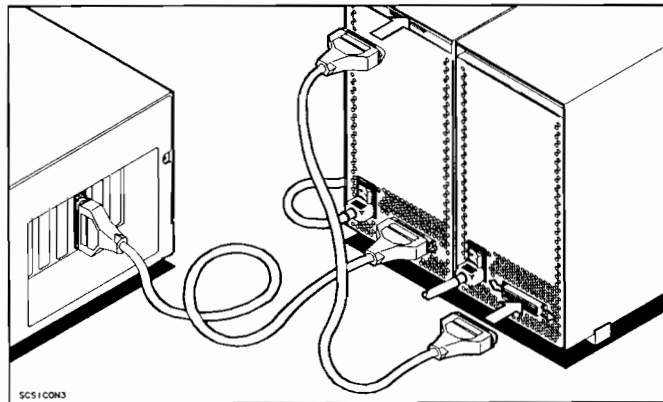

Figure 1-4. Connecting Two SCSI Cables
3. If you are connecting additional mass storage systems, connect them with a SCSI interface cables that have large connectors at each end (see Figure 1-4).